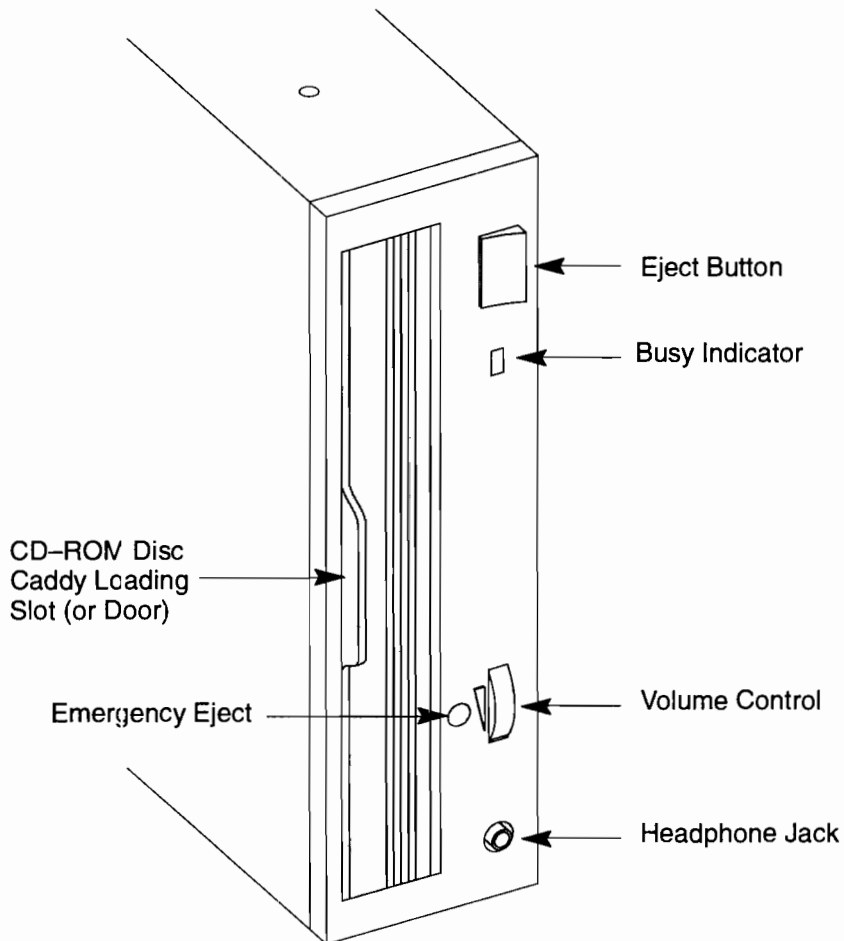

Figure 6-2. CD-ROM Drive Controls and Features
Figure 6-2 shows the operating controls and features of the CD-ROM drive. Table 6-1 describes each of these controls and features.
2. Press the eject button on the CD-ROM drive. (See Figure 6-2.)